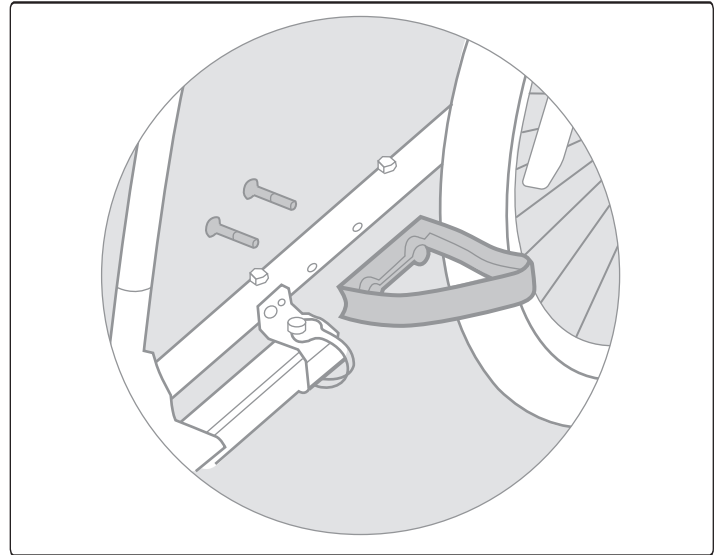

FIGURE 1
1. Insert wheel guard bolts through frame tube. Match holes in wheel guards to bolts. Tighten securely with hex key. **FIGURE 1**